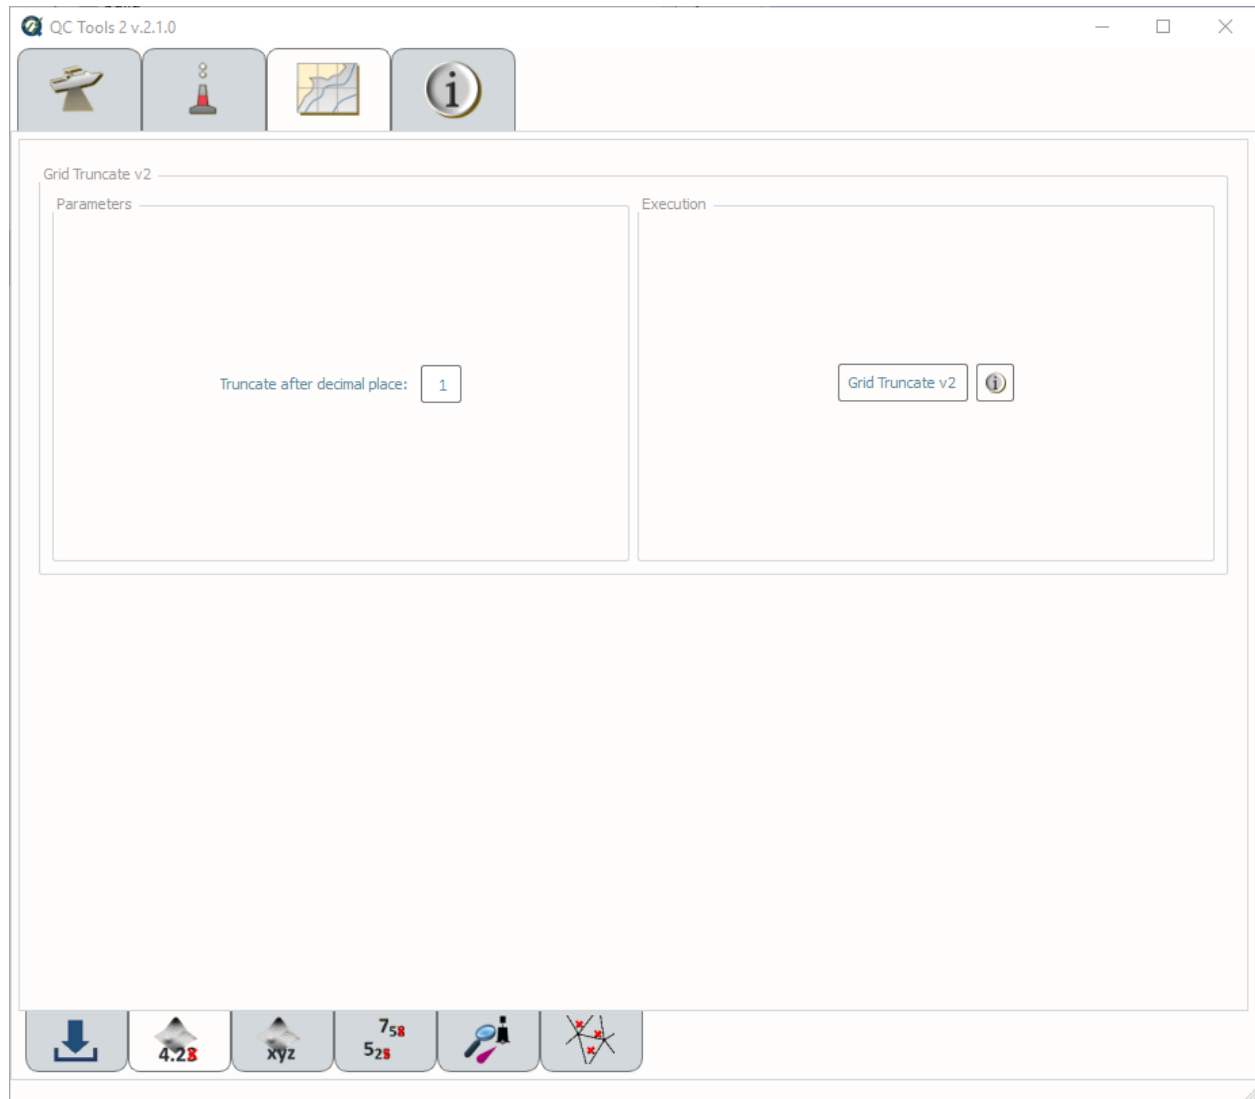

Fig. 2.35: Grid truncate's interface.
- In **Execution** (Fig. 2.35), click **Grid Truncate v2**.